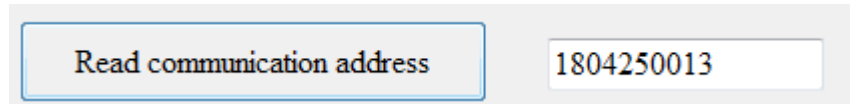

Figure 9 Read communication address diagram
(5) after open the COM interface, press “Read communication address” button. The text box on the right side of the button shows the communication address of UWM means successful communication. As shown in Figure 9.